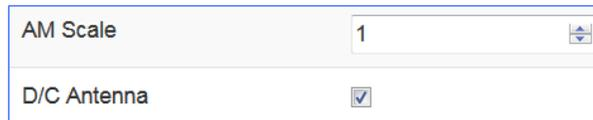

Figure 93: Antenna Controls Window, D/C Antenna Selection Checked
- Click on the box in the DC Antenna field to check the box and enable the option, as shown in Figure 93.